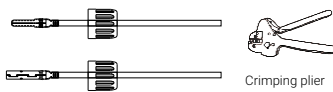

Figure 5.15 Crimp the contact pin to the wire
3. Crimp the contact pin to the wire using a proper wire crimper. (see figure 5.15)